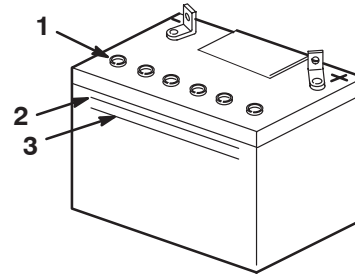

Figure 26
2. Look at the side of the battery. The electrolyte must be up to the Upper line (Fig. 26).
Important Do not allow the electrolyte to fall below the Lower line (Fig. 26).
3. Remove the vent caps from the battery (Fig. 26).
4. Slowly pour distilled water into each battery cell until the electrolyte level is up to the Upper line (Fig. 26) on the battery case.
- Wait 5 to 10 minutes after filling the battery cells. Add distilled water, if necessary, until the electrolyte level is up to the Upper line (Fig. 26) on the battery case.